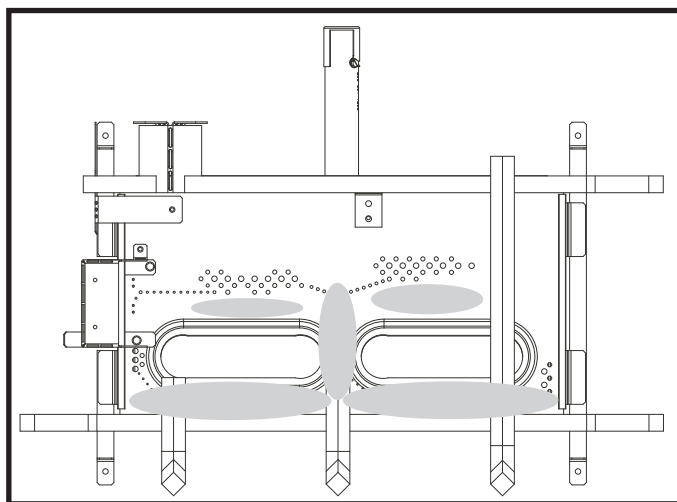

Figure 11.10. Location of Glowing Embers in Shaded Areas
- Place dime-size pieces of Glowing Embers® just in front of the port trail, but not on or in between the ports (see Figure 11.10). Care should be taken so that the ports are not covered. Failure to follow this procedure will likely cause lighting and sooting problems.